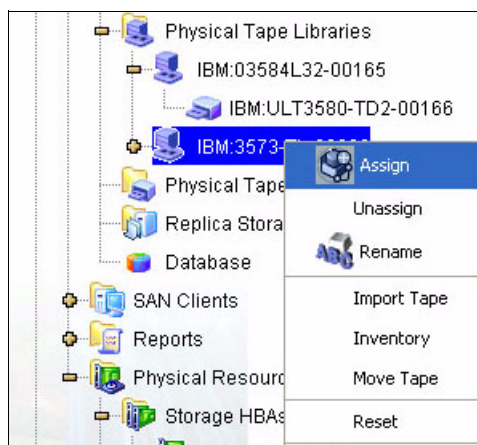

Figure 6-69 Discover new devices: Assign tape drives
8. To assign the new TS3200 tape drives, right-click the TS3200 tape library (Figure 6-69) and select **Assign**.